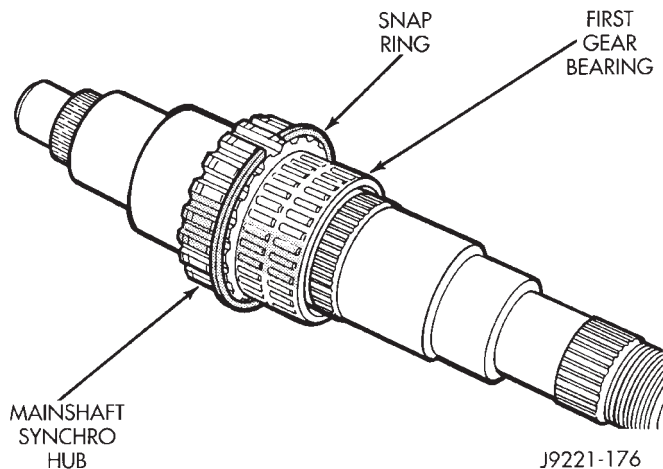

Fig. 92 First Gear Bearing and Snap Ring Installation
- (1) Install first snap ring in rearmost groove of mainshaft hub (Fig. 92). This snap ring locates first gear clutch gear on shaft. A total of four of these snap rings are used to secure various components on the mainshaft 1-2 synchro hub. The snap rings are all the same size and are interchangeable.